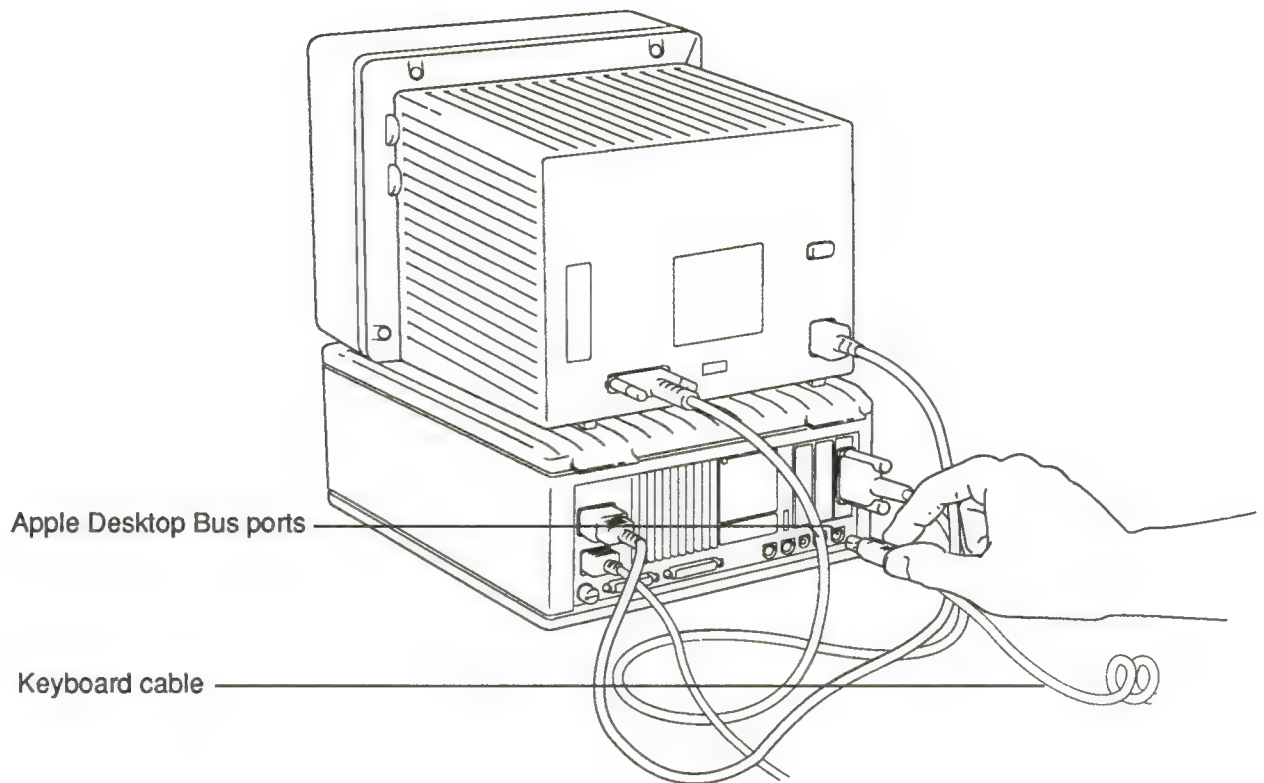

Figure 31. Connecting the keyboard cable to the computer
17. Plug the free end of the keyboard cable into either of the two ADB ports on the back of the computer, as shown in Figure 31.